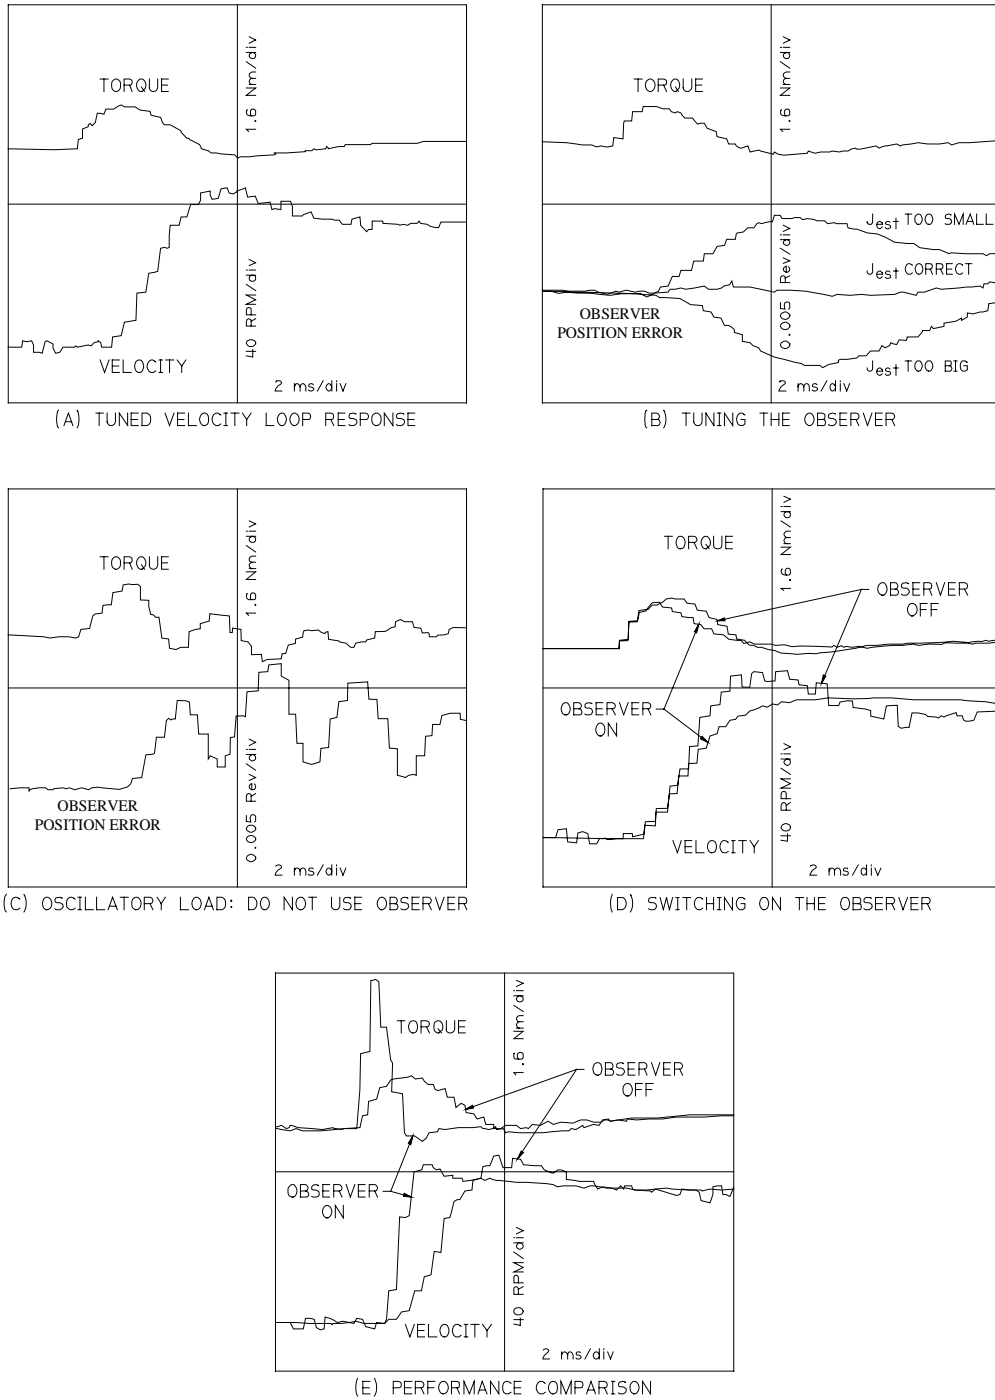

FIGURE 4.56 Velocity Observer Tuning Waveforms
- ❑ Tune the velocity loop using the normal procedure described in Section 4.2.5.4. FIGURE 4.56(A) shows a typical tuned velocity loop response to a step reference command. It shows the torque response on the drives' TP1 test point and the actual velocity response on TP2. The size of the step velocity reference should be small enough to avoid saturation of the torque signal. Note the single overshoot of about 24% in the velocity response and the 12 ms settling time.
- ❑ Tune the observer by setting up the observer inertia parameter, J_{est} . Monitor the observer error signal θ_{err} at the drives' TP1 test point by using the **OFA5** command. FIGURE 4.56(B) shows the usual starting point for tuning: J_{est} is too small. Use the **JU**, **JD** or **SJ** commands to adjust J_{est} (refer to Sections 4.2.5.2 and 4.2.6.1.2). FIGURE 4.56(B) also shows θ_{err} when J_{est} is tuned correctly, θ_{err} steps with a slight ripple superimposed. θ_{err} is a measure of the model uncertainty, and of any disturbance torque which may be present. Normally there will be some viscous friction present, so that θ_{err} will step appropriately when the shaft velocity makes a step change.
If θ_{err} oscillates excessively when the velocity makes a step change, as shown in FIGURE 4.56(C), then do not use the observer, since the load may not be modeled adequately by the observer.
- ❑ As a final check of proper tuning, enter **OFA4** to monitor observer velocity on TP1, and compare it with the actual velocity response which was shown on TP2 in FIGURE 4.56(A). These should be identical.
- ❑ Switch on the observer by using the **OO** command, (reference Section 4.2.6.4.4), and then **Y** to the subsequent prompt. FIGURE 4.56(D) shows the velocity loop response when the observer is switched into the loop. Note the lack of overshoot, because of a better measurement of velocity. The servo noise generated is also reduced.
- ❑ In order to achieve higher gains, the compensator filter frequency may now be set higher, using the **SW** command, (refer to Section 4.2.6.1.8). Typically this frequency may be set to 600 Hz, depending on motor servo noise. The **P** and **I** gains may now be tuned up again, in the normal fashion described in Section 4.2.5.4. FIGURE 4.56(E) compares the response of an observer based system with a normal velocity loop system. Now the response settles in just 2.2 ms, whereas without the observer the step settled in about 12 ms. The observer response also shows a smaller overshoot.